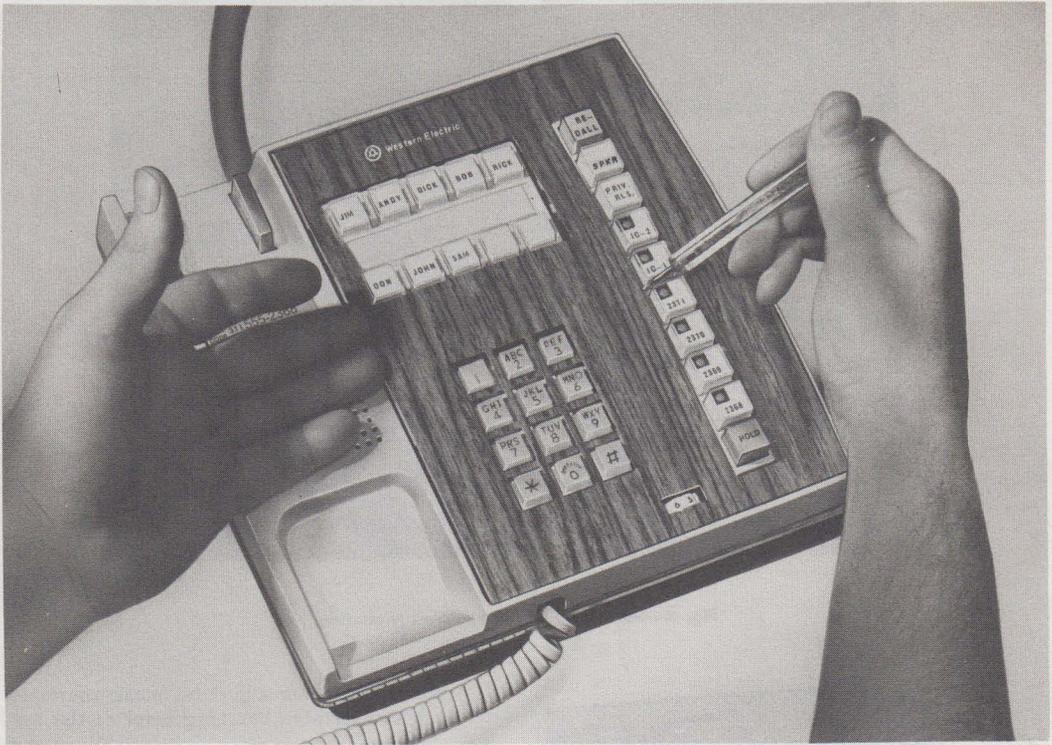
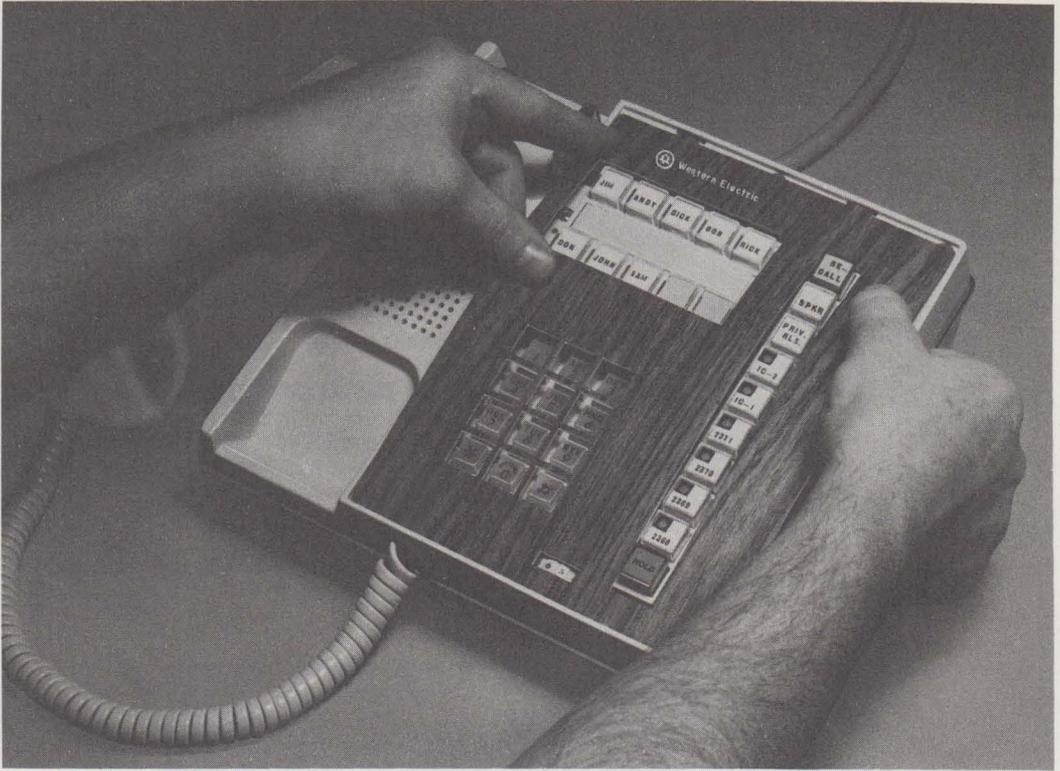

Fig. 10—Faceplate Removal
Fig. 11—Replacing Faceplate
- (1) Remove faceplate by inserting a KS-16750 tool in the notch near the center of the faceplate and raising upward to bow faceplate (Fig. 10).
- (2) Loosen two captive screws holding DSS key and move key to side.
- (3) On a TOUCH-TONE set, move the O-BK lead from terminal 36 to 31; on rotary sets, move the BL-R lead from terminal 28 to 39.
- (4) Replace DSS key.
- (5) Install faceplate by inserting in slots at bottom of set and bowing it until it will slide in slots at top of set (Fig. 11).
- (1) Remove faceplate by inserting a KS-16750 tool in the notch near the center of the faceplate and raising upward. See Fig. 10.
- (2) Remove DSS key.
- (3) Remove W-BR lead from telephone set terminal 9 and W-G from terminal 38. Insulate and store leads.
- (5) Replace faceplate (see Fig. 11).